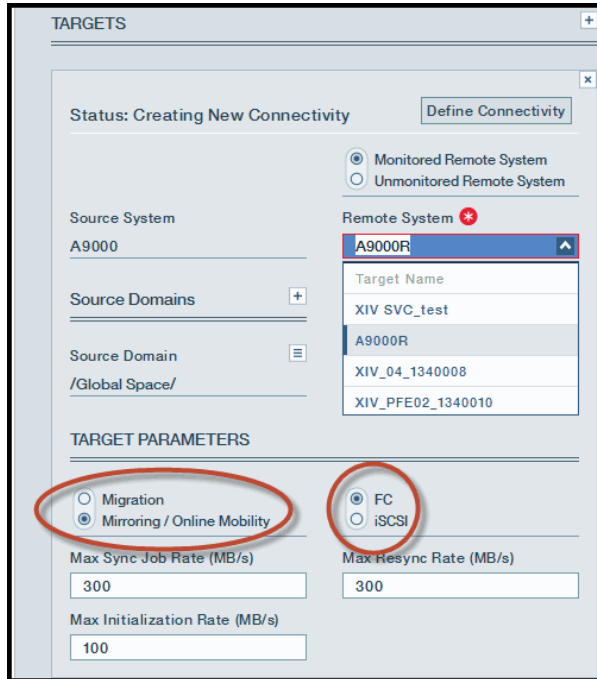

Figure 1-18 Target type and protocol
2. Choose the Remote System from the drop-down box, select the Remote Domain, define the type of connectivity to be used (mirroring or migration) and the protocol (iSCSI or FC), as shown in Figure 1-18 on page 17.